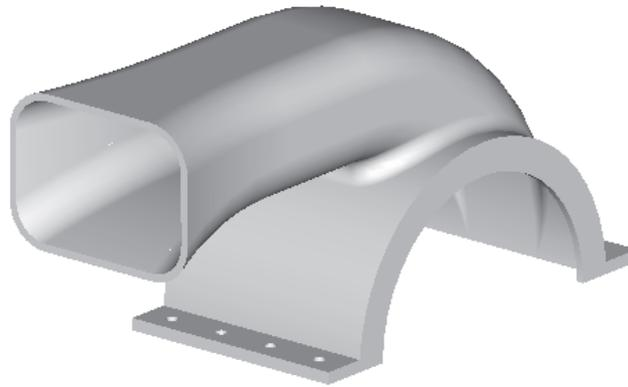
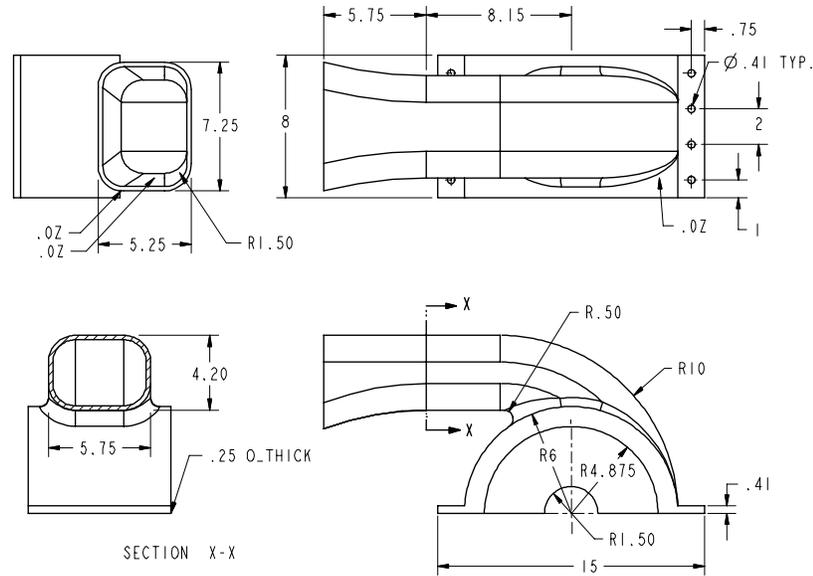
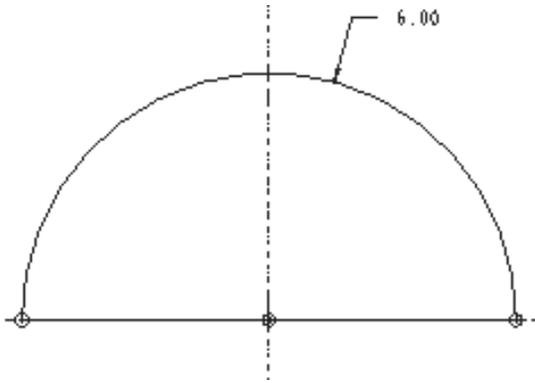
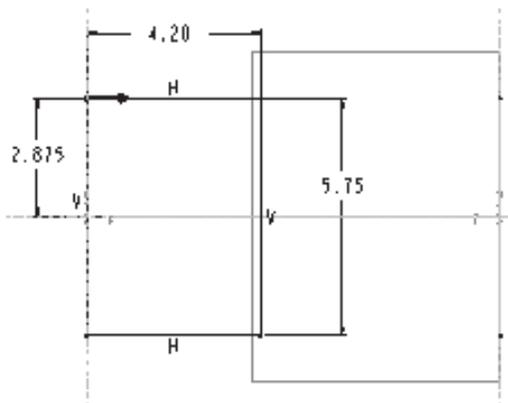

Figure 8-40 Solid model of the Upper Housing
Figure 8-41 Left-side view of the top view, top view, front view, and the sectioned left-side view of the model
Figure 8-42 Sketch for the base feature
Figure 8-47 Sketch for second section with dimensions
In this tutorial you will create the model shown in Figure 8-40. This model is a Upper Housing of a motor blower assembly. Figure 8-41 shows the left-side view of the top view, top view, front view, and the sectioned left-side view of the model. **(Expected time: 1 hr)**
- a. First examine the model and then determine the number of features in it. The model is composed of ten features, see Figure 8-40.
- b. The base feature is an extruded feature, see Figure 8-41. Select the sketching plane for the base feature, draw the sketch using the sketcher tools, and apply dimensions, see Figure 8-42.
5. Once you enter the sketcher environment, create the sketch of the base feature and apply dimensions as shown in Figure 8-42.
16. Draw the sketch of the second section and add dimensions as shown in Figure 8-47. This section is at the point between the first and the third section and in Figure 8-41, this section is named as X-X.